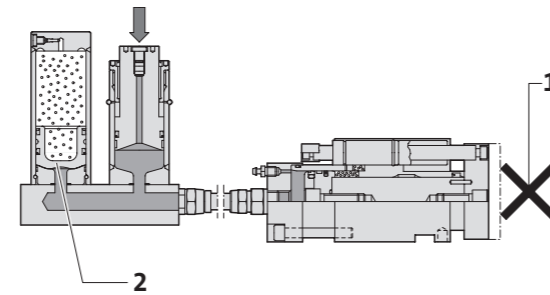

Figure 6:
4.2 Safety function (Fig. 6)
If the working stroke of the cam in the press is blocked (1), the piston in the accumulator (2) is raised. The oil is displaced into the accumulator, which prevents overpressure from building up in the system (Fig. 6).